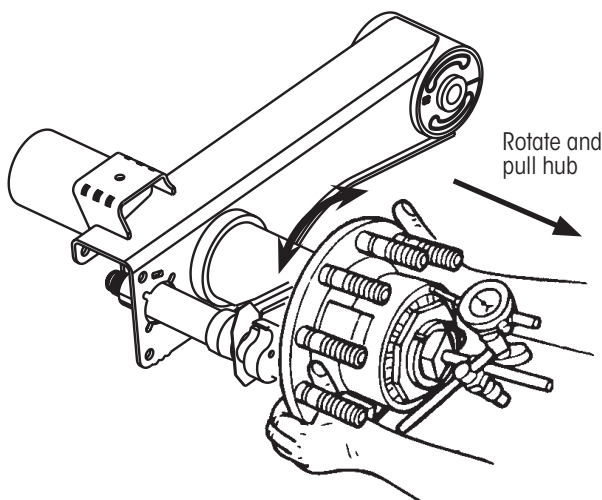

Figure 6: Checking outward end-play
9. While still **grasping** hub (Figure 6), **pull** hub outward **while rotating** hub slightly in both directions (15 - 30° between two holes) until dial indicator reading remains constant. **Record** reading.